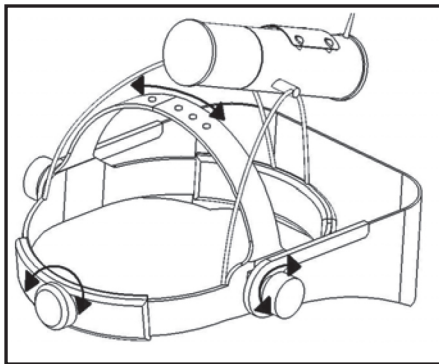

Figure 3. v300/v600 Headgear Adjustment
Headband Adjustment (Figure 3)
- 6) **It is critical that the top strap of the headgear be adjusted to allow the rear section of the headgear to fit below the protuberance at the base of your skull! The system will be extremely uncomfortable without this adjustment! See Fig. 3 below.**